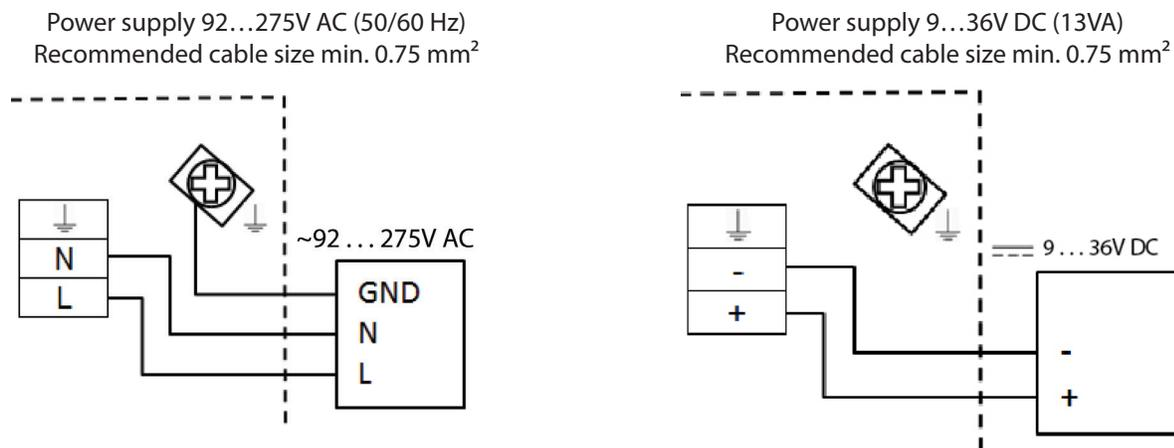

Figure 25: Auxiliary power connection
3. Connect as shown in *Figure 25*.